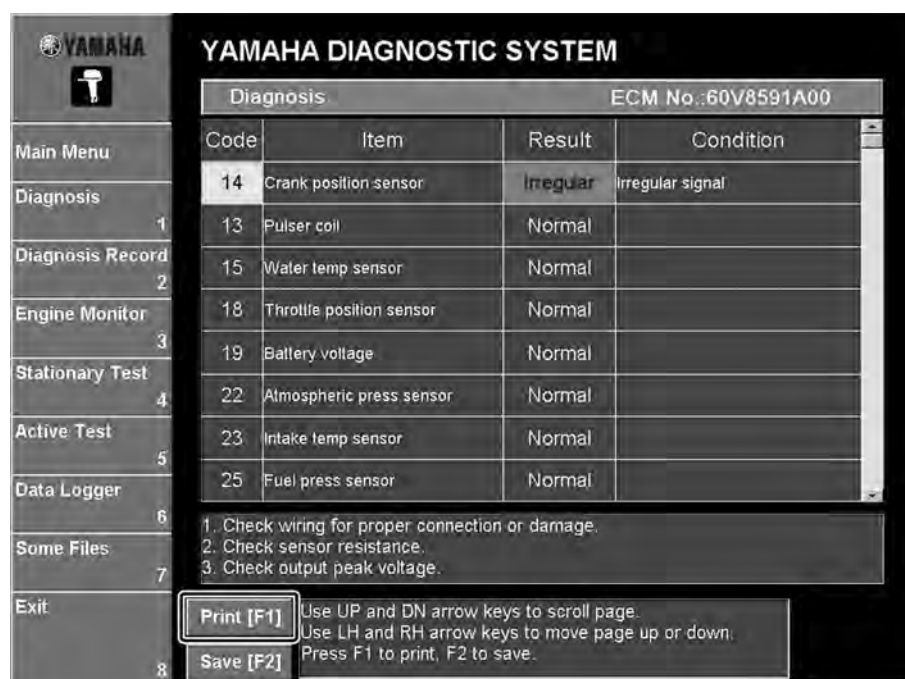

Fig. 35
1. Click the **Print [F1]** button or press the F1 key on your keyboard. The **Print** dialog box is displayed. (Fig. 35)